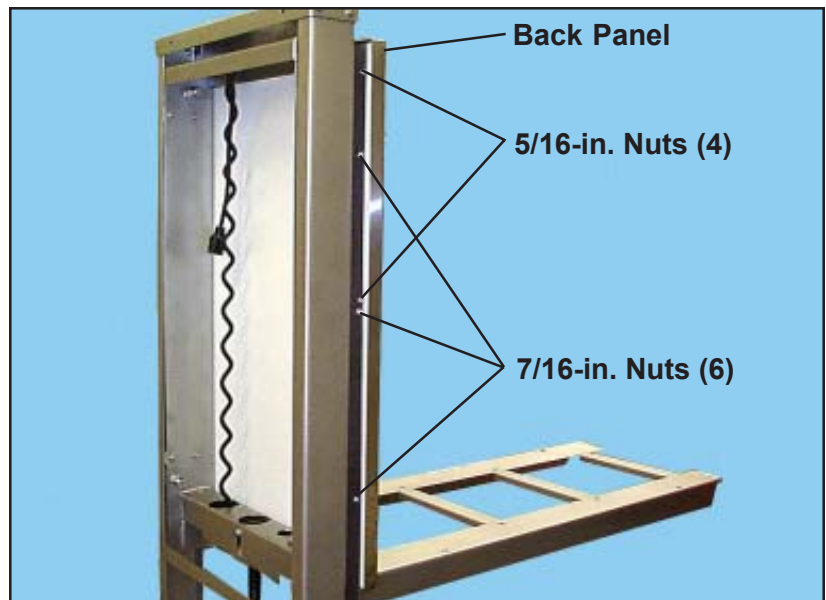

Figure 23. Removing the Back Panel
4. With a 7/16-in. wrench, remove the six retaining nuts (three each side) holding the back panel to the frame (Figure 23).
18. Replace the back panel and secure with the ten screws (Figure 23).